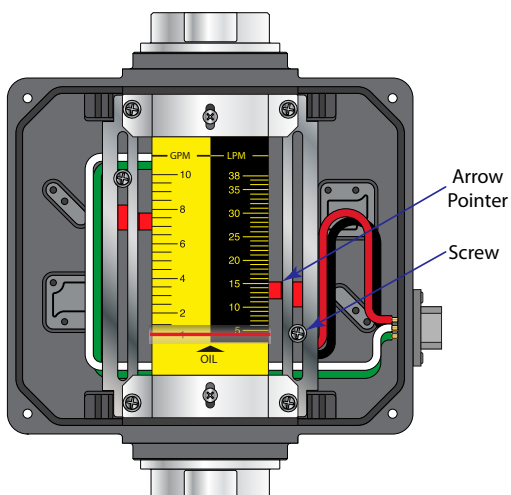

Figure 9: Reed switch adjustment (1/4"...1-1/2" models)
2. Loosen the screw securing the switch assembly (see *Figure 9*).